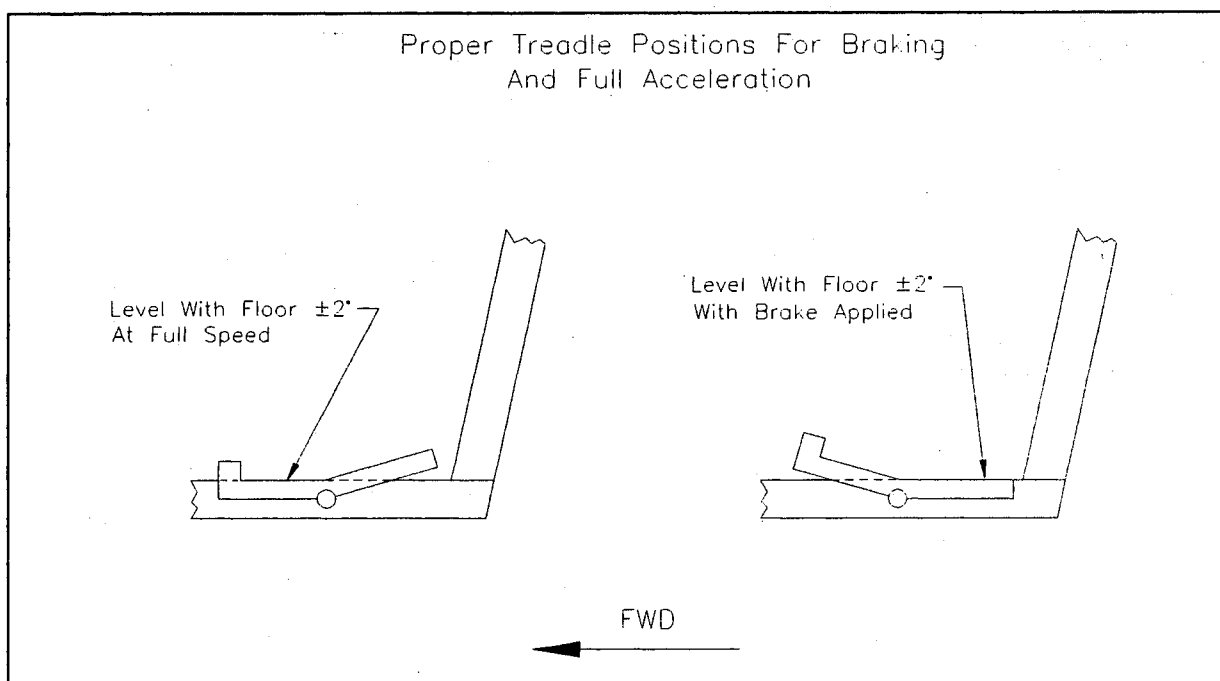

Figure 3-5.2
NOTE *The brake lever arm should be in contact with the chain case, and the accelerator module arm should be against the module stop. The front half of the foot treadle should also be level to the floorboard to be in proper adjustment. See figure 3-5.2 for proper position after installation.*
- Check for proper installation. Refer to figure 3-5.2 for proper treadle position.